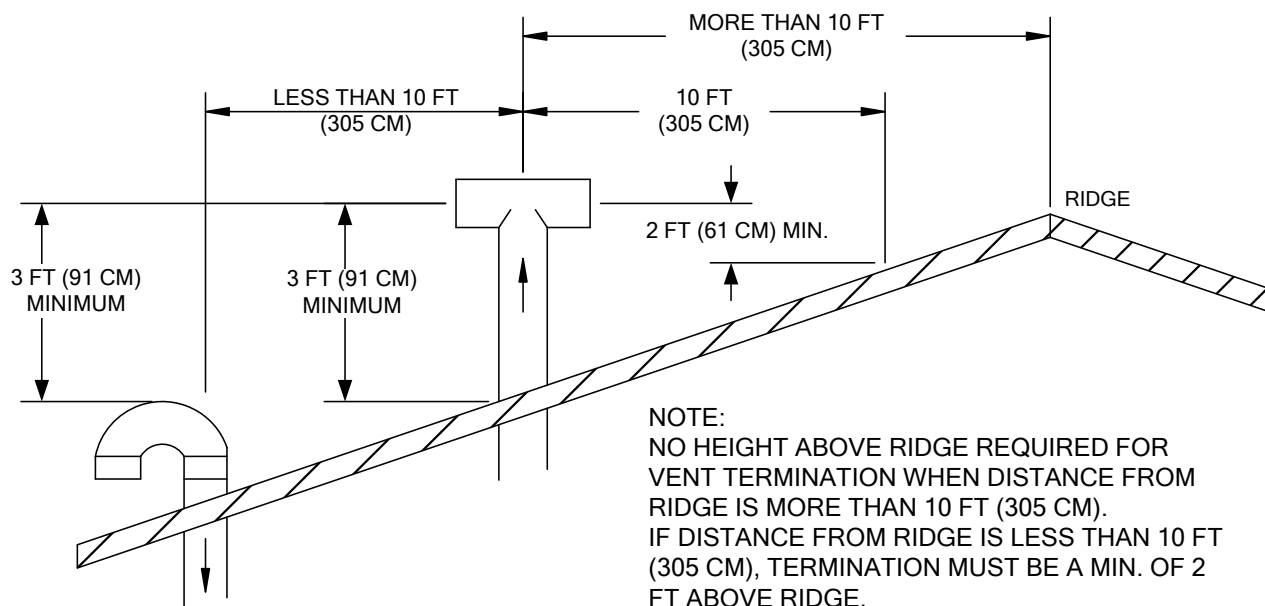

Figure 20: Vent Termination Locations
- Combustion air inlet must be 3 ft. below any vent outlet, within 10 ft. See Figure 20.
- Combustion air inlet must also face away from the vent outlet. See Figure 20.